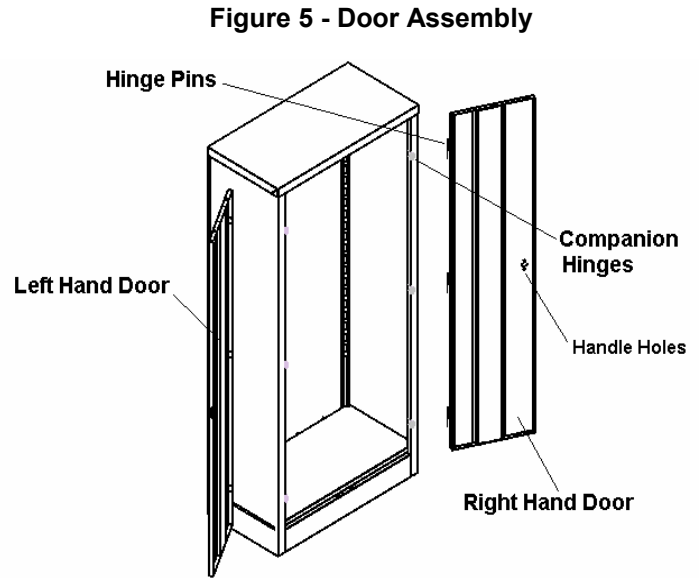

Figure 5 - Door Assembly
Now the doors are ready to be hung. With the hinge pins pointed down, select the door with three (3) holes for the handle cutout (see figure 5). This is the right hand door. Take the right hand door and align the door's hinge pins with the companion hinges located on the right side panel. Some of the hinge pins may have moved or come out of alignment during shipping and handling. If so, move the hinge pins back to the proper position so that they align with the companion hinge holes. Slowly slide the hinge pins into the holes and rotate the door slightly from left to right while applying minimal downward pressure until the pins seat properly to the companion hinges. Repeat the same process for the opposite door.